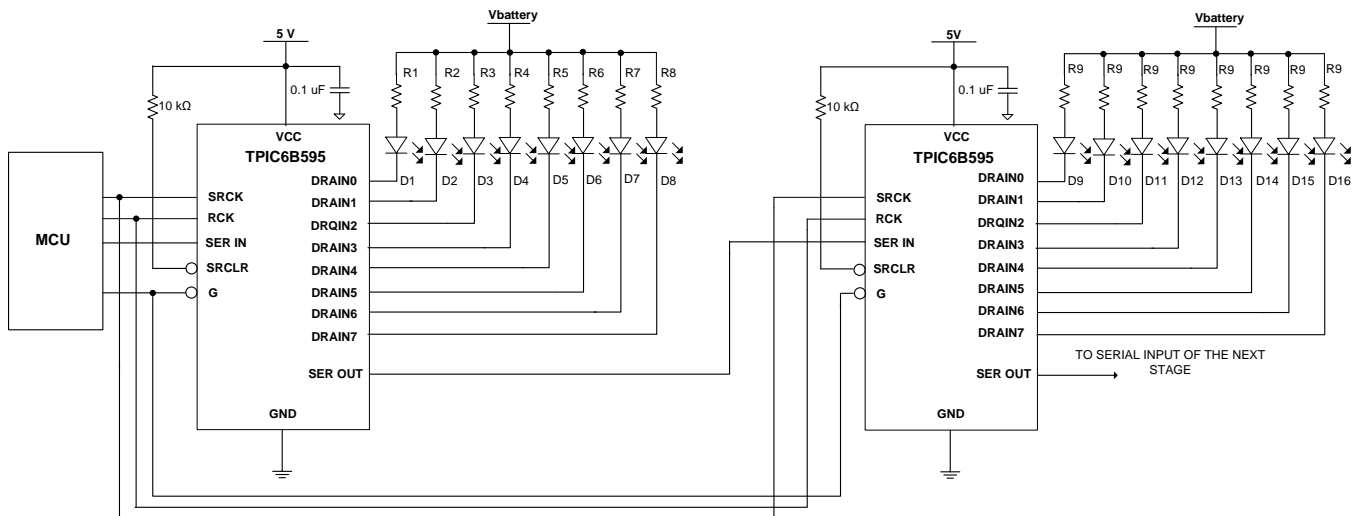

Figure 14. Typical Application Schematic
The typical application of the TPIC6B595 device is the automotive cluster driver. In this example, two TPIC6B595 power shift registers are cascaded and used to turn on LEDs in the cluster panel. In this case, the LED must be updated after all 16 bits of data have been loaded into the serial shift registers. MCU outputs the data to the serial input (SER IN) while clocking the shift register clock (SRCK). After the 16th clock, a pulse to the register clock (RCK) transfers the data to the storage registers. If output enable (G) is low, then the LEDs are turned ON corresponding to the status word with ones being ON and zeros OFF. With this simple scheme, MCU use SPI interface can turn on 16 LEDs using only two ICs as illustrated in Figure 14.